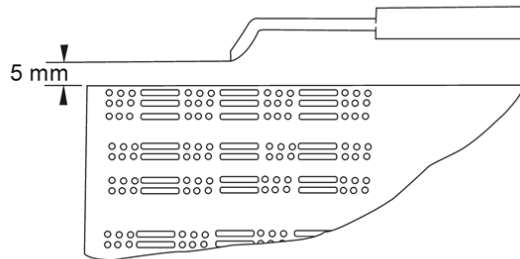

Figure. 5
- Verify the position of the starting electrode (see Figure 5).